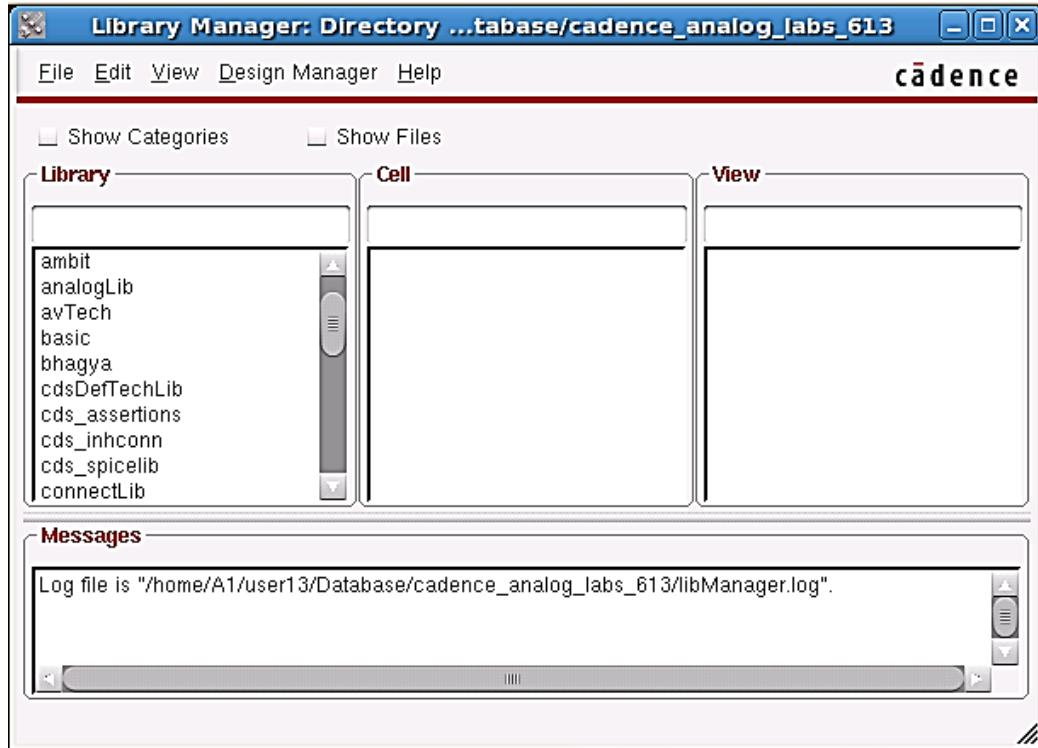

Figure 1.2: Library Manager
- to load the Library Manager (Fig.1.2). The Library Manager stores all designs in a hierachal manner. A library is a collection of cells. For example, if you had a digital circuits library named Digital, it will have several cells included in it. These cells will be **inverters**, **nand gates**, **nor gates**, **multiplexers**, etc. Each cell has different views. These views will in general be things such as **symbols**, **schematics**, or **layouts**.